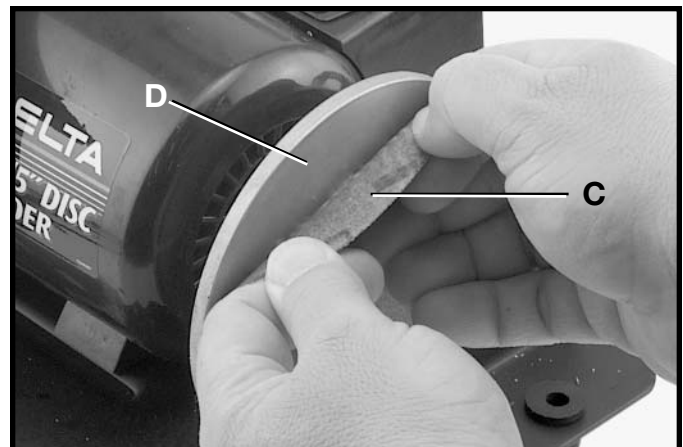

Fig. 26
3. Remove the used sanding disc (C) Fig. 26, from disc plate (D).
4. Make sure disc plate (D) Fig. 26, is clean.